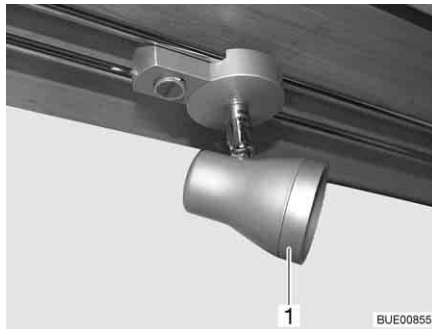

Fig. 275 Halogen spotlight (movable)
- Turn outer ring (Fig. 275,1) in an anticlockwise direction until it separates from the housing.